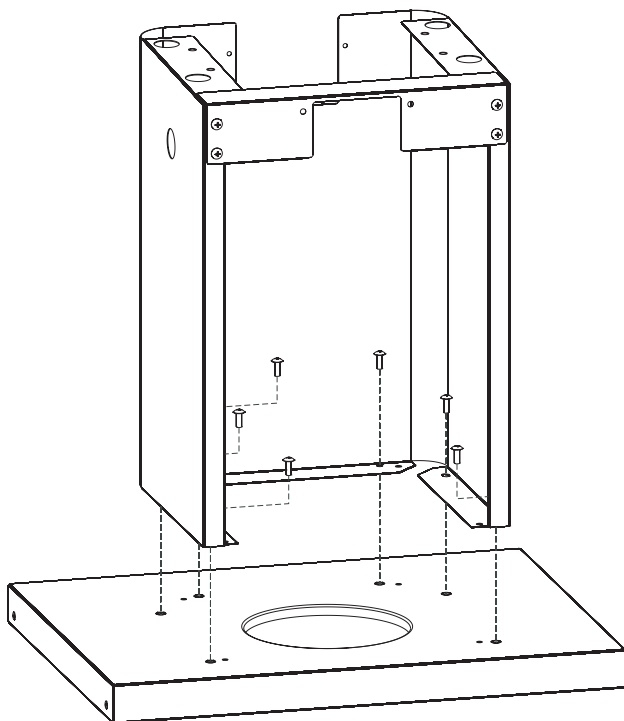

FIGURE 8
Attach base body assembly (6) to base shelf assembly (8) with six 1/4-20x3/4" phillips head screws. Insert screws into the factory installed threaded inserts on the base shelf assembly. Tighten screws completely. Figure 8.